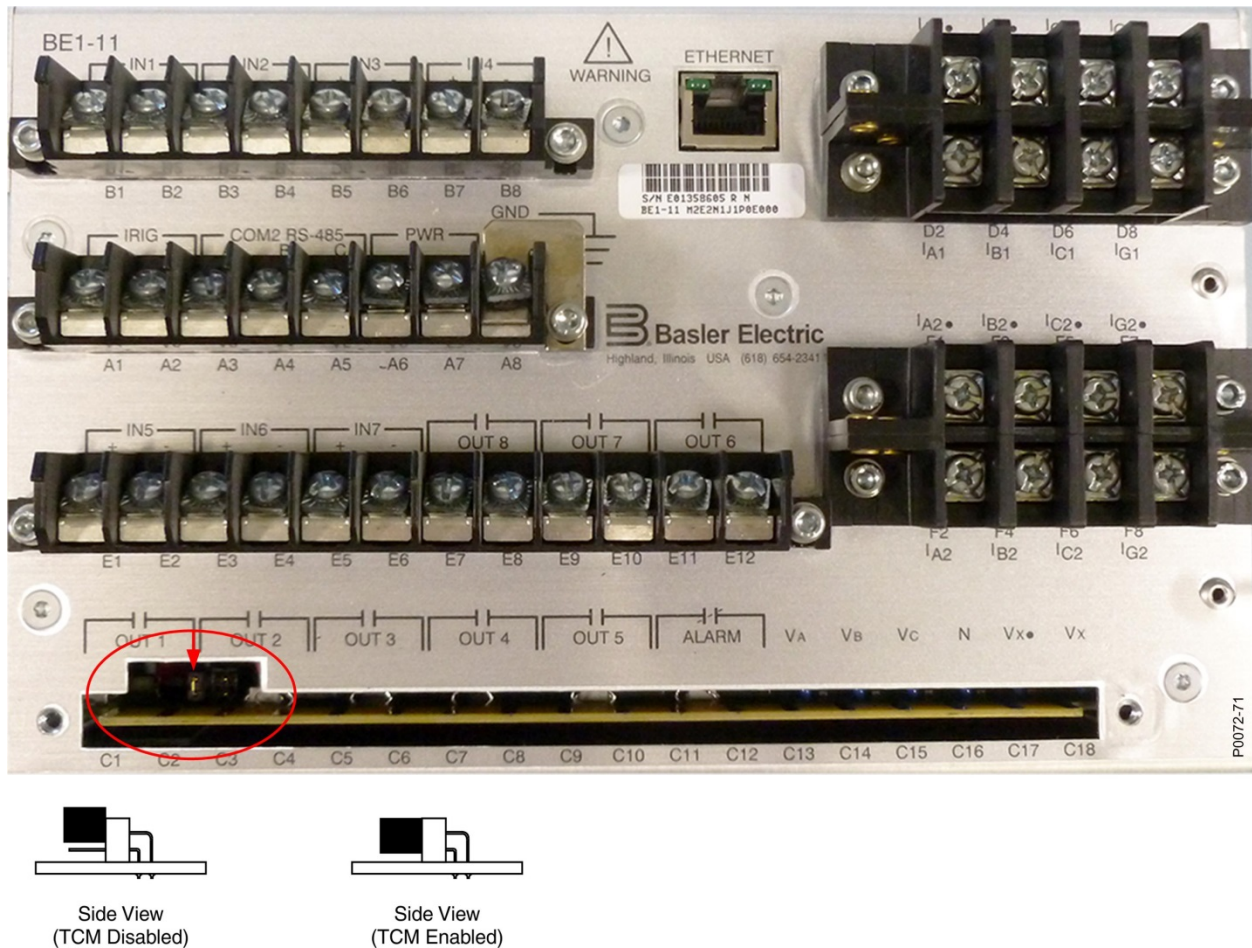

Figure 39-4. Trip Circuit Monitor Enable/Disable Jumper Location
2. Locate the jumper terminal block that is mounted on the left side of the circuit board. The terminal block has four pins. With the jumper as installed at the factory, the jumper should be connected across pins 1 and 2 (left side) when viewed from the back of the unit. This jumper configuration enables the trip circuit monitor. Figure 39-4 illustrates the location of the jumper terminal block as well as the position of the jumper connected.